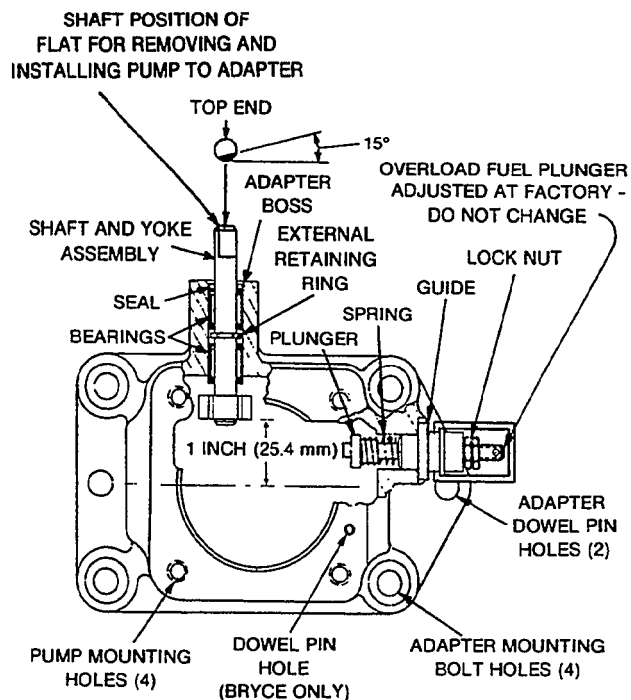

FIGURE 61. INJECTION PUMP ADAPTER ASSEMBLY
6. Position fuel control shaft and yoke as shown in Figure 61. Then, lift pump off of adapter assembly.